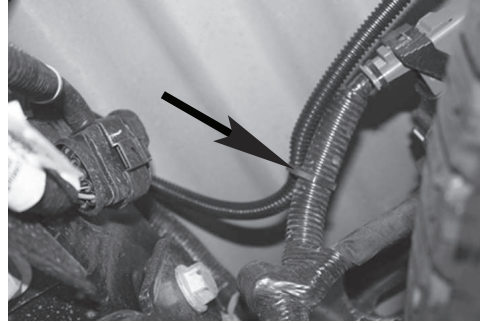
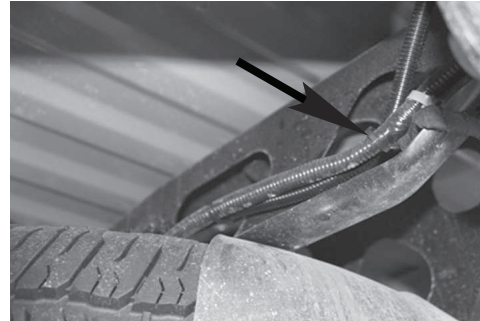

Figure 3
Figure 4
5. Route portion of RV Harness with connectors containing **Green** wires across frame rail and over spare tire shown in **Figure 3** and **Figure 4**. Route connector ends to vehicle's connectors and repeat Step 3 for connector plugging. Secure RV harness to existing factory wire harness with cable ties provided.